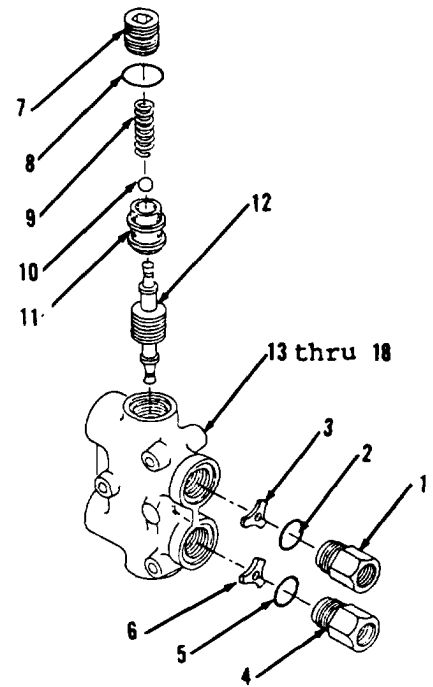

Figure 10-69.
1. Remove adapter (1), preformed packing (2) and choke (3, Figure 10-69) from items 13 thru 18 as an assembly. Discard preformed packing (2).
2. Remove adapter (4), preformed packing (5) and choke (6). Discard preformed packing (5).
3. Loosen plug (7) carefully to relieve tension of spring (9). Remove plug (7), preformed packing (8), spring (9) and ball (10). Discard preformed packing (8).